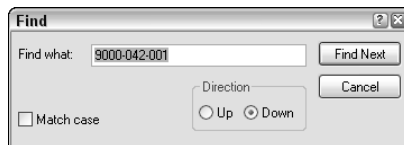

Figure 20-7: The Find dialog box.
2. Choose Data View ⇨ Find to open the Find dialog box, shown in Figure 20-7. (You can also right-click any cell in the column and choose Find.)